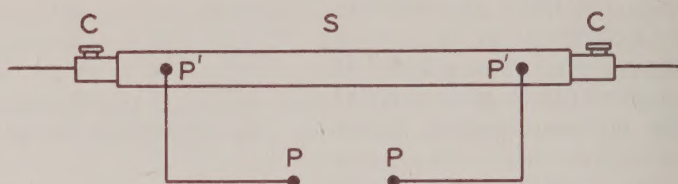

Fig. 5
11. TO MEASURE CURRENT (Fig. 5)
Current measurements are made by measuring with the potentiometer the voltage drop across a known resistance as shown in Fig. 5. S is the standard resistor having current terminals CC and potential terminals P'P'. The potentiometer is connected to this shunt at posts PP. The resistance between points P'P' is adjusted to an even value. Most resistances for this purpose are so chosen, that to determine the current passing through the shunt, it is only necessary to multiply the potentiometer reading by a given factor. For example, in using a 0.01 ohm standard, it is necessary to multiply the potentiometer reading by 100, which gives the correct reading in amperes; in the same way a 0.1 ohm standard requires a multiplier of 10 and a 0.001 ohm standard, a multiplier of 1000.